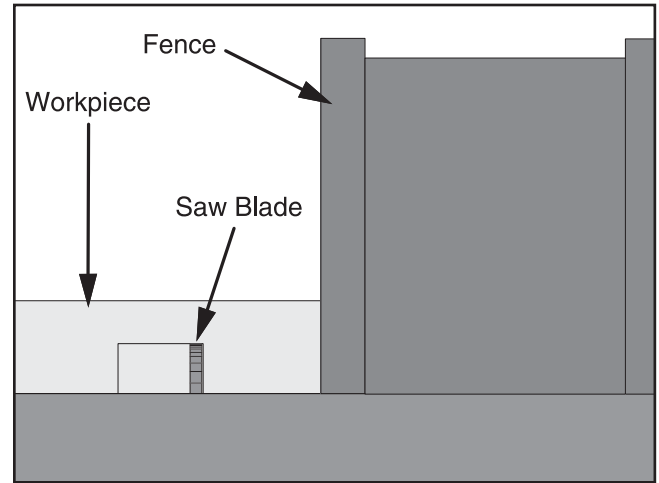

Figure 28. Single-blade dado first cut.
5. If dadoing the length of a workpiece, align the blade to cut one of the dado sides as shown in **Figure 28**.